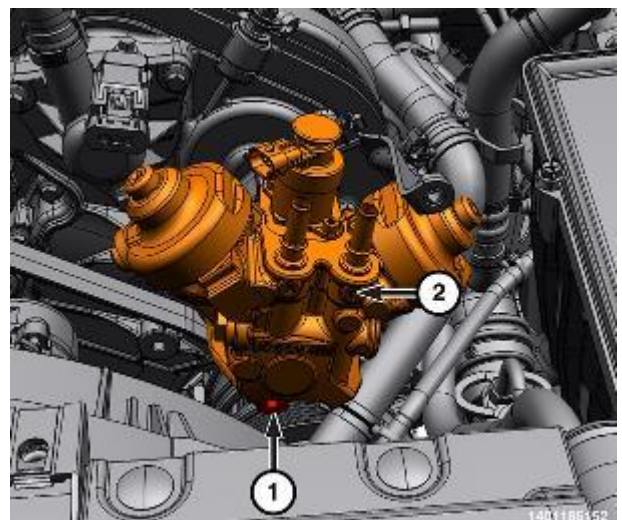

Figure 189 – HPFP Lower Bolt
31. Remove the lower bolt (1) from the HPFP (2) and slide the pump away from the engine as far as possible (Figure 189).